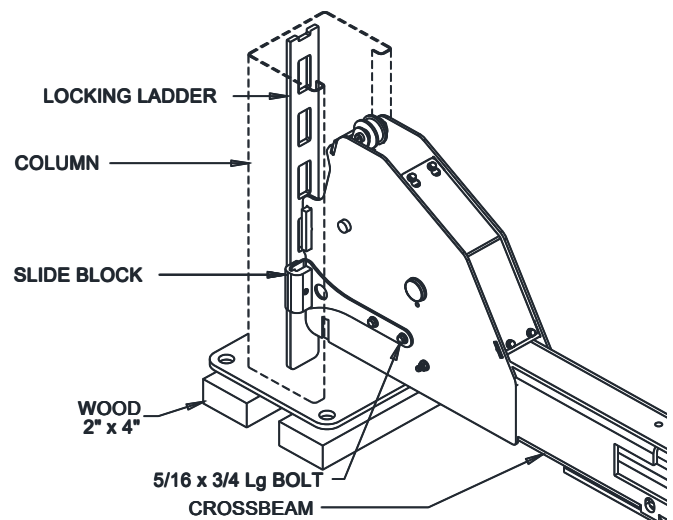

Fig 9 – Slide Block Installation
- 15) Slide power side column onto crossbeam until the end of the crossbeam is approximately one inch from the back of the column. Position slide blocks as shown in **Fig 9** and attach with 5/16-18 x 3/4" bolts. Lift the column and place on wood 2" x 4"s.